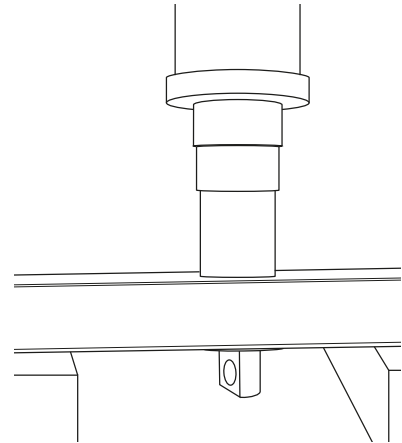

Figure 75: Removal Tool Centred On D-Pin
5. Install the D-Pin removal tool centred on the D-Pin bush. Refer Figure 75.